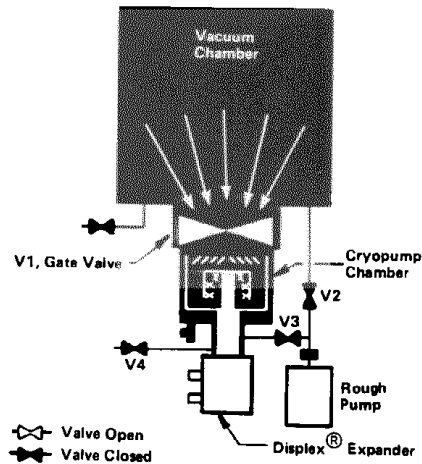

Figure 14 Steady State Cryopumping
3. After the cryopump has cooled down to minimum temperature and the main vacuum chamber has been rough pumped to crossover pressure, open the gate valve. The cryopump is now operating in steady state. See Figure 14.